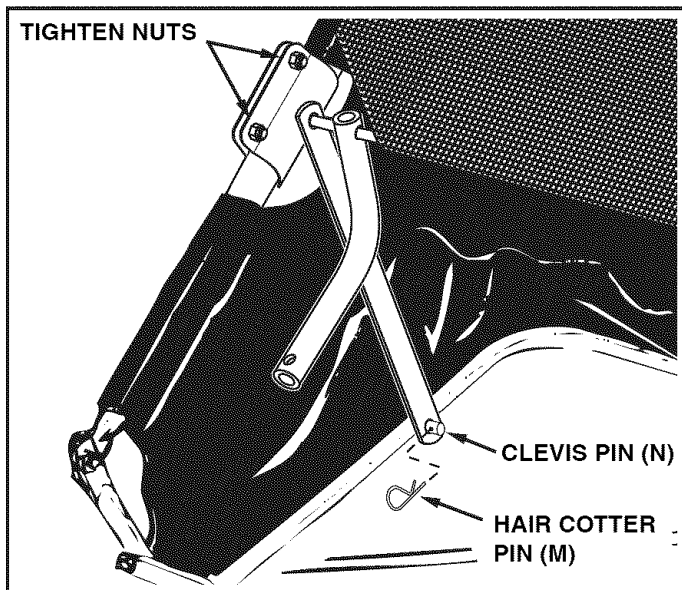

FIGURE 16
- Attach the bottoms of the hopper support straps to the clevis pins (N) in the lower hopper tubes, securing the straps with the previously assembled hair cotter pins (M). See figure 16.
- Tighten the nuts on the hopper mount clamps. See figure 16.